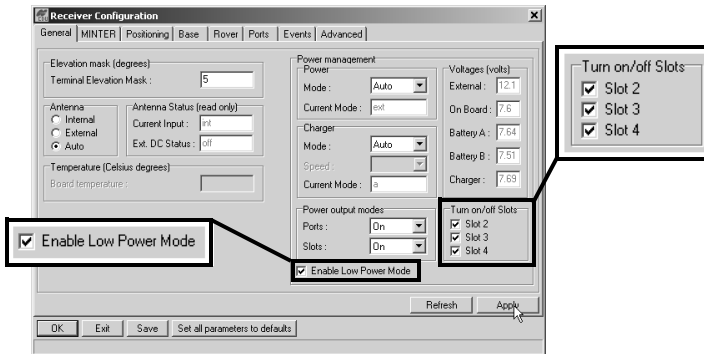

Figure 2-6. Enable and Apply Power Settings
8. Select and check each of the *Turn on/off Slots* check boxes to enable the corresponding internal slots (Figure 2-6).
9. Select and check the *Enable Low Power Mode* check box to put the receiver’s processor into low power consumption mode (Figure 2-6).